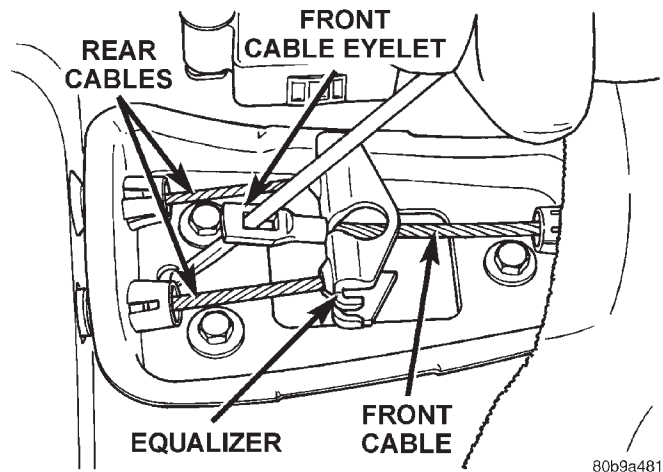

Fig. 43 Front Cable Eyelet
(1) Remove center console, refer to Group 23 Body.
(2) Lift up rear seat and carpet covering the parking brake cables.
(3) Place a screw driver through the front cable eyelet (Fig. 43) and pry back on the front cable.